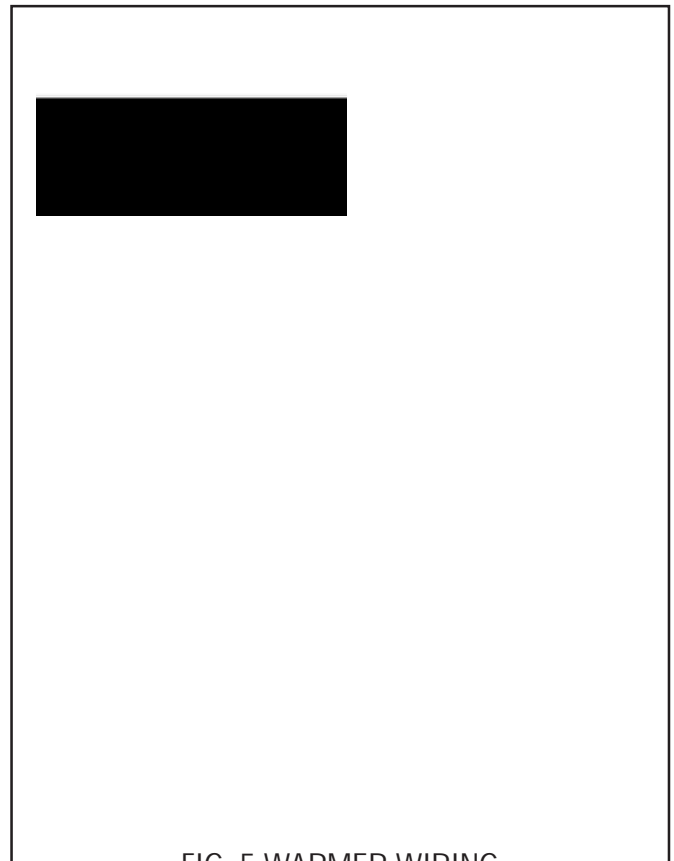

FIG. 5 WARMER WIRING
4. Refer to FIG. 5 when reconnecting the wires.